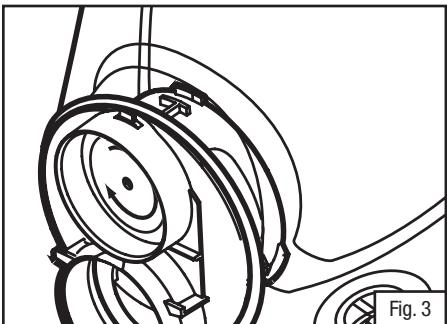

Fig. 3
4. Place new 6889 valve over the exhalation port and push or press valve stem into center hole (Fig. 3). Be certain the valve is fully seated and spins freely in mount.